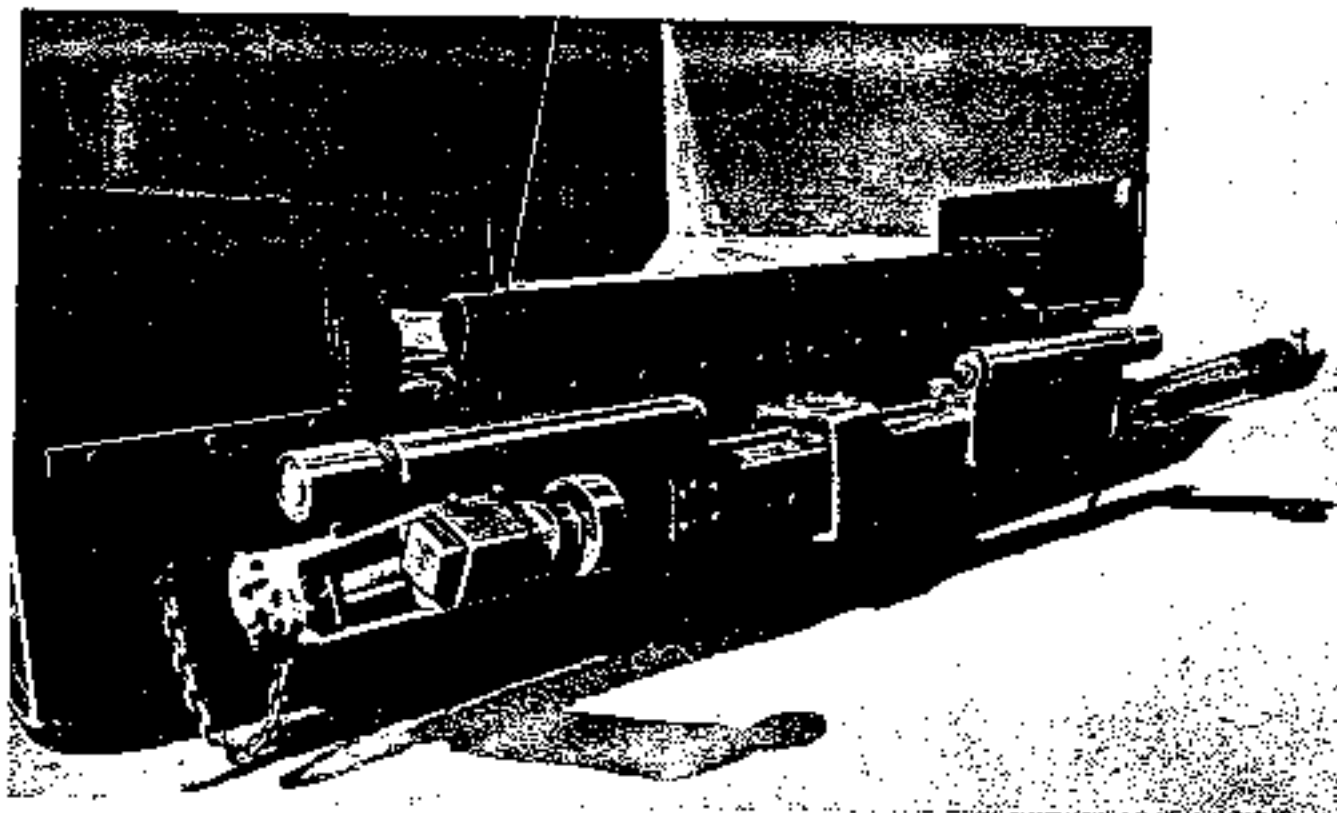

FIGURE L-8 - Hitch Assembly
11. Install hopper extensions and weld apron extensions to existing apron. (Refer to Figure L-8).